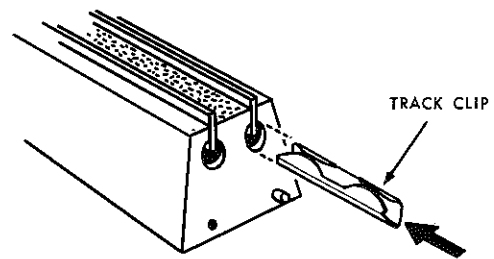

FIGURE 10
□ Fit a brass track clip into one of the holes at the end of a section of track (see Fig. 10). Press the end of the clip firmly against a hard surface until the clip slides into the hole as far as it will go. Repeat with another clip in the second hole.